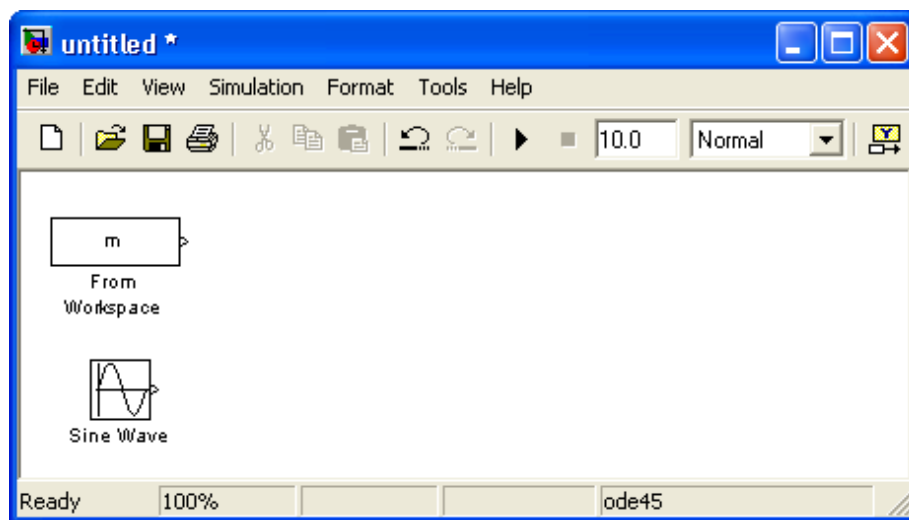

Figure 12: Untitled Design Window Showing the Sine Wave Block
1. The Sine Wave block can be used to generate the carrier cosine sequence. The location of blocks, such as the Sine Wave block, will be indicated using the following notation, Simulink → Sources → Sine Wave. This notation states that the Sine Wave block can be located by first expanding the Simulink library in the Simulink Library Browser and then expanding the Sources library, which contains the Sine Wave block. (Note that you can also search for blocks using the search field near the top of the library browser by typing in the block name, for example sine wave.) Drag the Sine Wave block onto the design window. The design window with the Sine Wave block is shown in Figure 12.